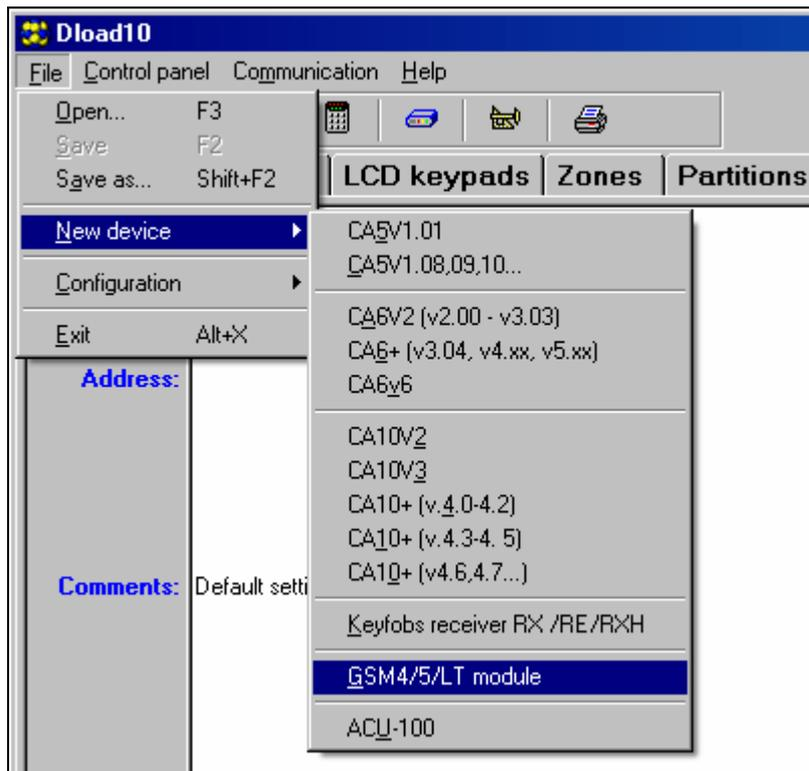

Fig. 8. Selecting the GSM module after starting the DLOAD10 program.
2. In the DLOAD10 program, "File" menu, first select "New device", and then "GSM-4/5/LT module" (see: Fig. 8).